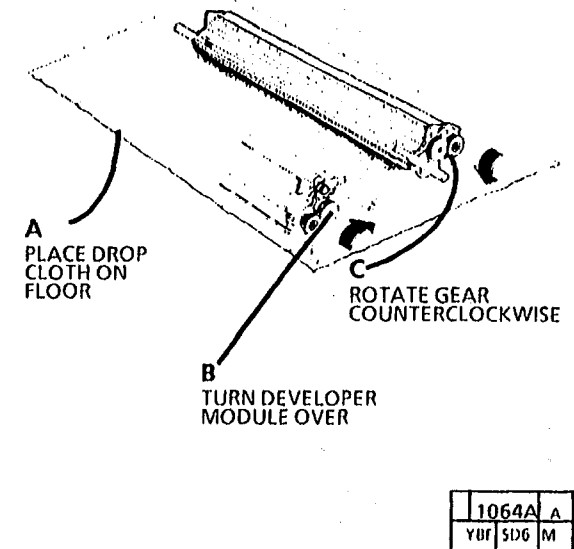

Figure 9. (2510) Dumping the Developer Material
9. (Figure 9. 2510): Remove the developer module (REP 9.5).